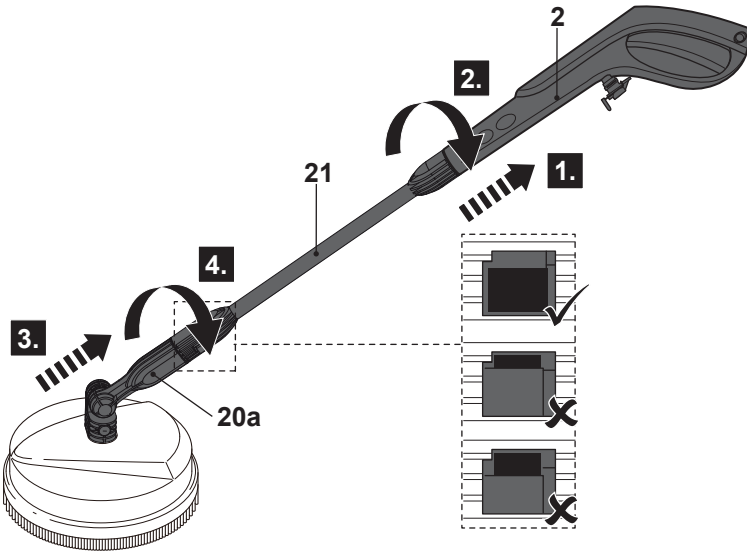

Fig. 26
- > Attach the extension lance (21) to the spray gun (2) (Fig. 26, steps 1, 2)
- > Attach the angle connector (20a) to the extension lance (21) (Fig. 26, steps 3, 4)